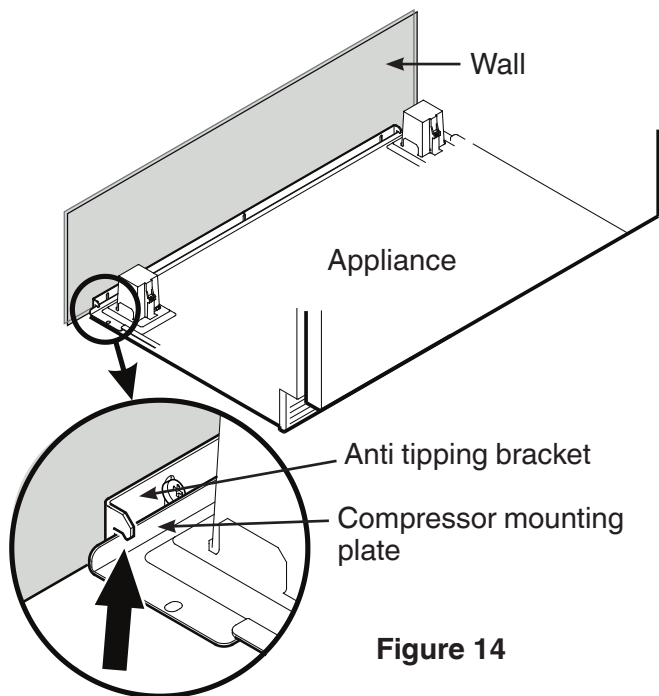

Figure 14
4. Push the appliance slowly to the back wall until the compressor mounting plate makes contact with the anti-tipping bracket (Figure 14).
**To prevent the appliance from tipping forward the compressor mounting plate must have contact with the anti tipping bracket (Figure 14).**